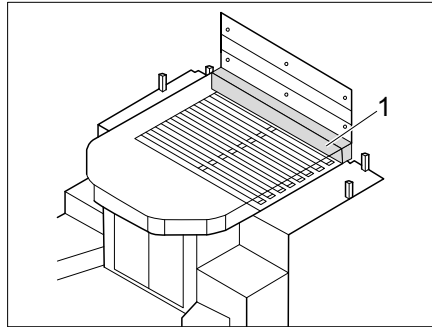

Fig. 180 Bed extension - variant 1
- Place additional mattress (Fig. 180,1) on the front side of the queen bed.